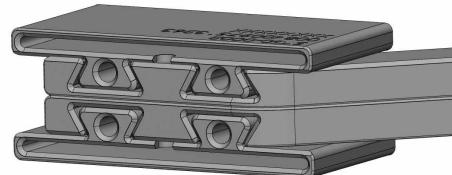
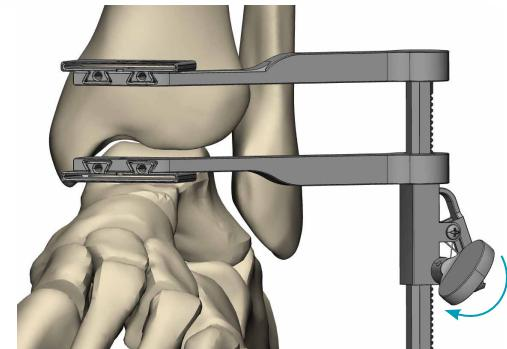

Fig. 4.1a
Fig. 4.1b
- 4.1 If using the distractor and flat cut guides in conjunction with the Cylinder implant, insert a flat cut guide into each of the distractor jaws. (fig. 4.1a). Turn the distractor thumbscrew clockwise to expand the distractor jaws to the desired proximal and distal resection margins. (fig. 4.1b).